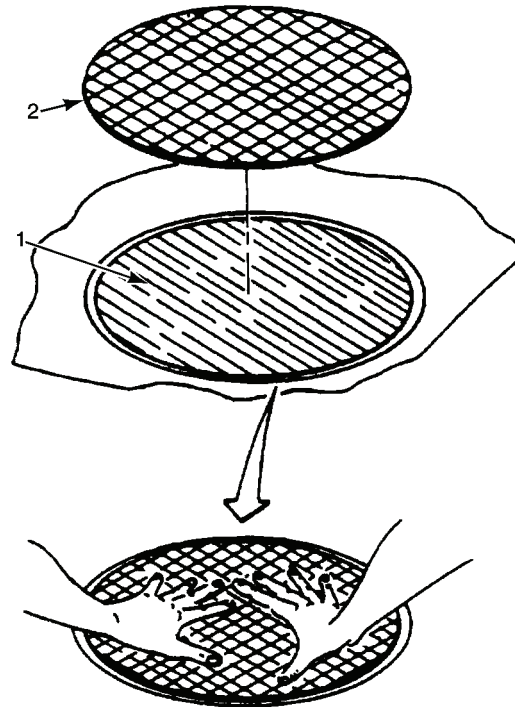

Figure 2-34. Centering Wet Patch.
(m) Prepare a new batch of adhesive (item 1, table 2-11) and carefully apply a uniform (liberal/heavy) coat of repair adhesive (1, figure 2-34) over previous coats of barrier adhesive. Smooth surface with gloved fingers wet with acetone (item 3, table 2-11) and remove any excess adhesive from unbuffered area with a clean cloth (item 16, table 2-11) and acetone (item 3, table 2-11). Wear gloves (item 4, table 2-11).